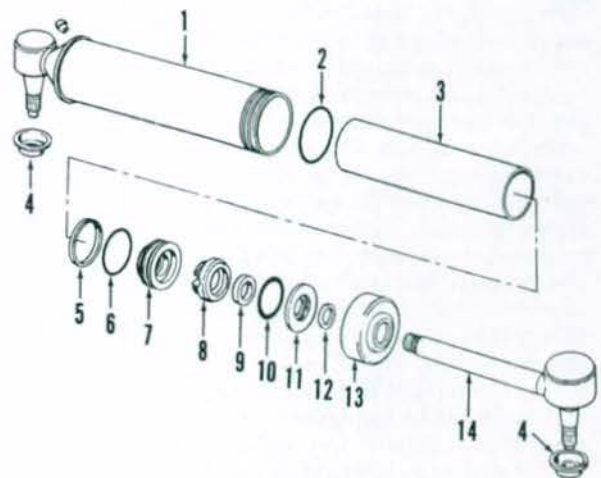

Fig. 20—Exploded view of early style power steering cylinder used on Models MF240 and MF250.
To disassemble steering cylinders, refer to appropriate Fig. 20 or 21 and proceed as follows: Remove oil from cylinder by working piston back and forth. Unscrew gland nut (13), then withdraw piston and rod assembly and the inner tube (3) from cylinder barrel (1). Unscrew piston (7) from rod (14), then remove remaining components from rod.